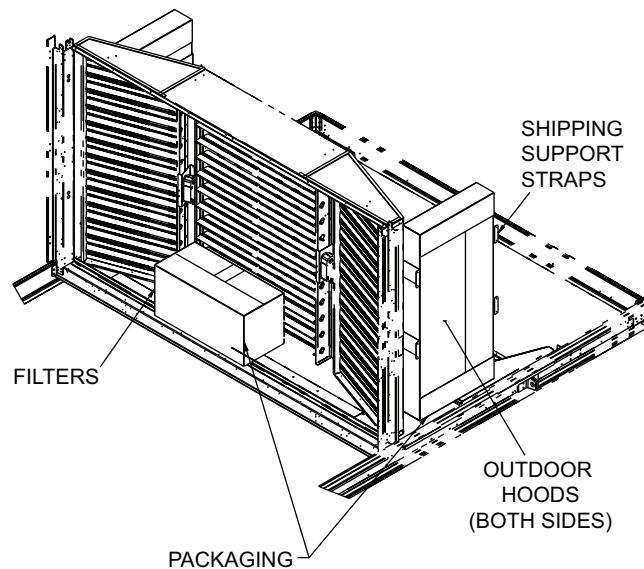

Fig. 22 — Packaging Locations
2. Remove the box from the unit (see Fig. 22).
3. Remove filters located between return/exhaust fan and economizer dampers; these are packaged separately from hoods for shipping (see Fig. 22). Screws, other hardware and seal strips are packaged with the outdoor hoods (Fig. 22).